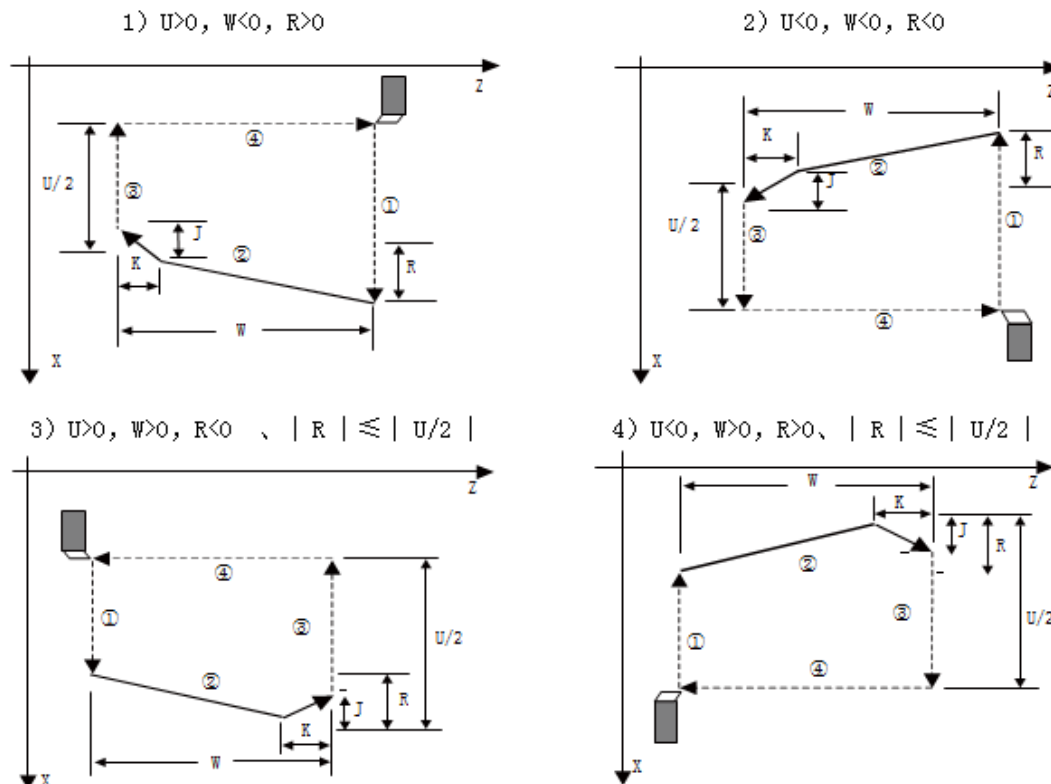

Figure 3-46
- The symbols of U and W determine the direction of $A \rightarrow C \rightarrow D \rightarrow E$, R(i) The sign of C determines the direction of $C \rightarrow D$. There are four combinations of U and W symbols, corresponding to four processing trajectories, see Figure 3-46.